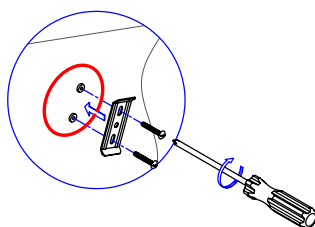

Fig. 4
- Step 5. Screw the mounting plate (with the lips facing out) to wall with mounting screw. (Fig.4)